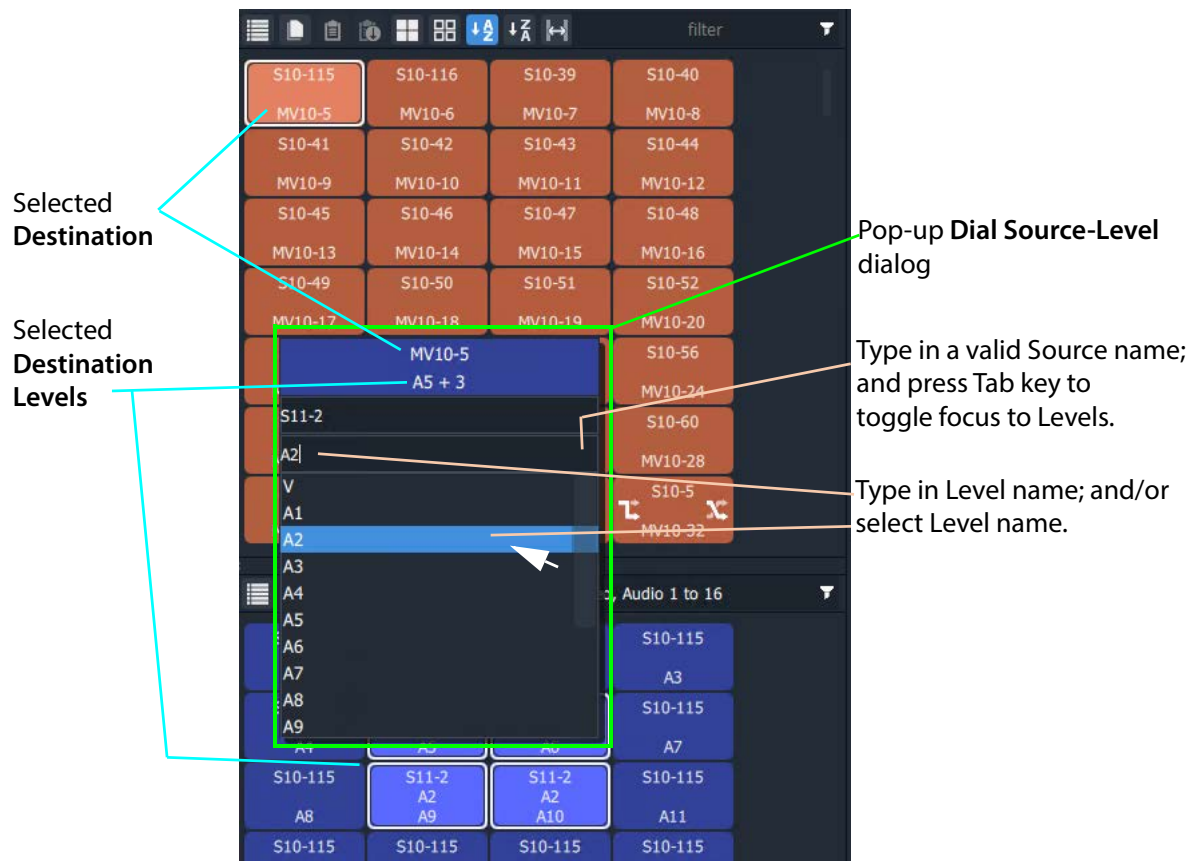

Fig. 13-24: Dial Source-Level Dialog
A default **Dial Source-Level** dialog pops up and shows the currently-routed Source name and Level. (See Figure 13-24.)
- 6 When the required (and valid) Source name is in the upper text box of the dialog, press the Tab key. (See Figure 13-24.)